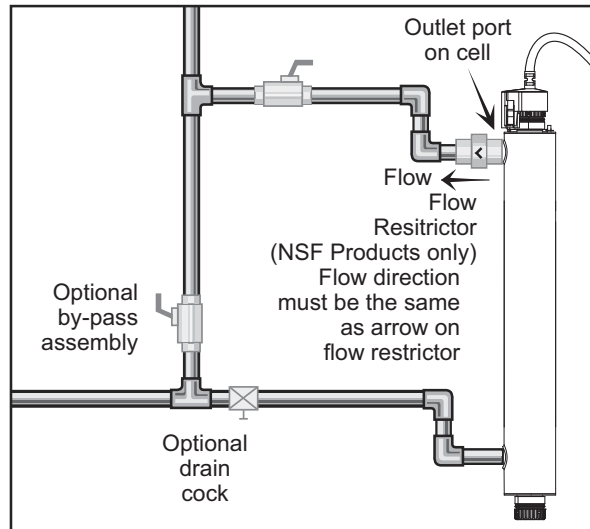

Figure 5 Flow Restrictor
3. Mount the system to the wall using the supplied clamps. Various connection methods can be used to connect the water source to the system, however union type connectors are recommended. The use of a flow restrictor device will help to maintain the manufacturers rated flow. The flow restrictor should be installed on the outlet port and is designed to be installed in one direction only. Ensure that the flow of the water matches the flow direction as indicated on the flow restrictor. Refer to Figure 5.